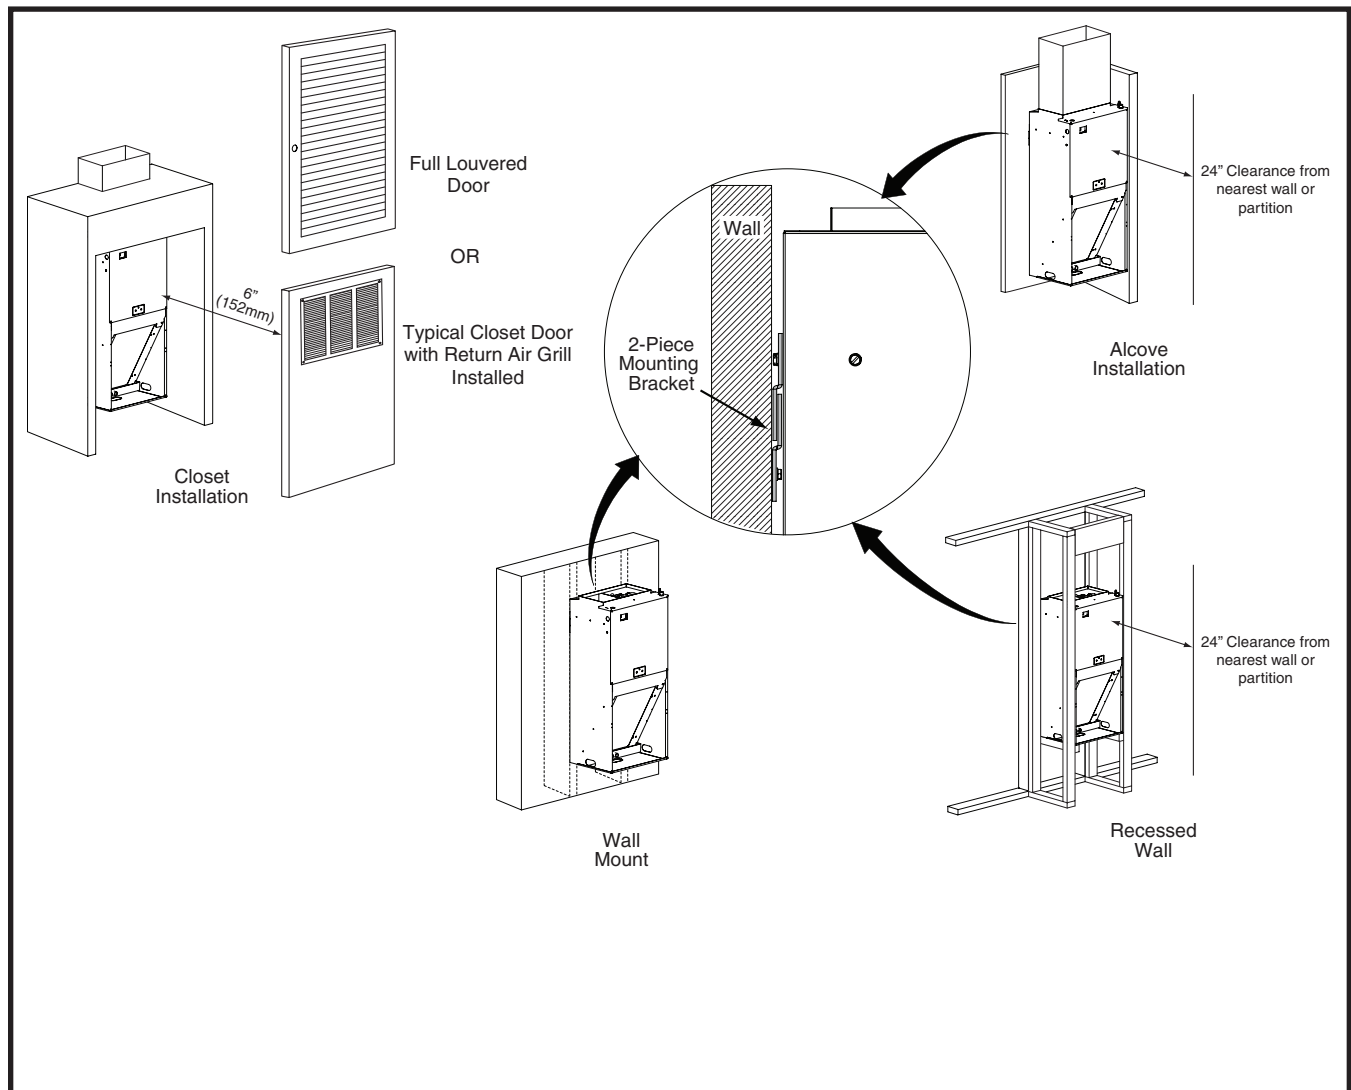
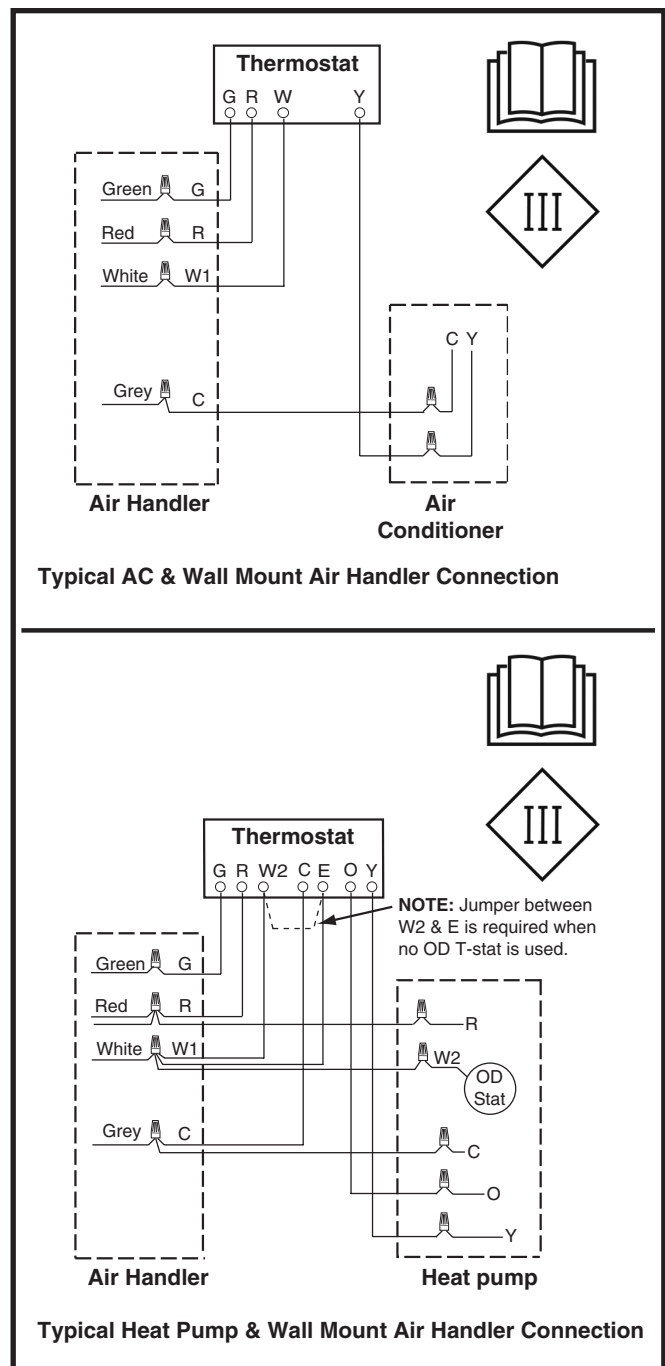

Figure 2. Unit Installation
Figure 4. Typical Thermostat Connections
The B64EW Air Handler is shipped ready for vertical upflow installation and can be mounted directly on a wall or recessed between framing studs as shown in Figure 1 & Figure 2. Units are also approved for closet or alcove installation with zero clearance to combustibles. See Table 1 (page 4) for required installation clearances. **This appliance is only for indoor use.**
- If a louvered door is installed across the front of this unit, the appliance must be mounted flush or behind front edge of finished wall. See Figure 1 & Figure 2.
For mounting, fasteners and mounting method shall be sufficient to support 300 pounds. If the air handler is recessed in a wall, attachment to the framing studs are through the inside of the front flange. For hanging applications, these units are provided with 2-piece offset hanging bracket (Figure 1 & Figure 2) attached to the rear of the cabinet. Mounting bracket dimensions are shown in Figure 4 (page 14).
- A single stage thermostat is used with this equipment and must operate in conjunction with any installed accessories. Typical AC and air handler hookups are shown in Figure 4. ISO 7000-0790 (2004-01) and the Class III symbol according to IEC 60417-5180.